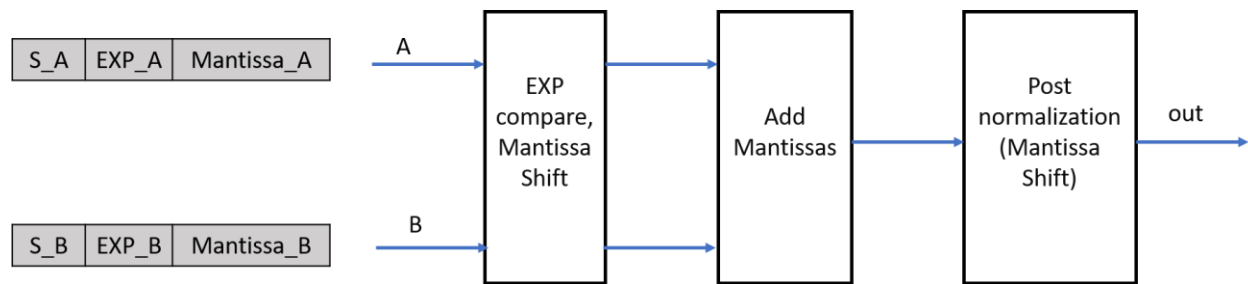

Figure 1. Stages of FP addition.
The values 0 and 255 are used as special-purpose flags to denote, among others, $\pm\infty$, denormalized numbers, and NaNs (Not a Number). For this lab, you should assume that the input values to the FP Adder are given so that they satisfy condition (2). Moreover, you may assume that the addition does not result in underflow or overflow so there is no need to check for these conditions. Figure 1 shows the stages of an FP addition.